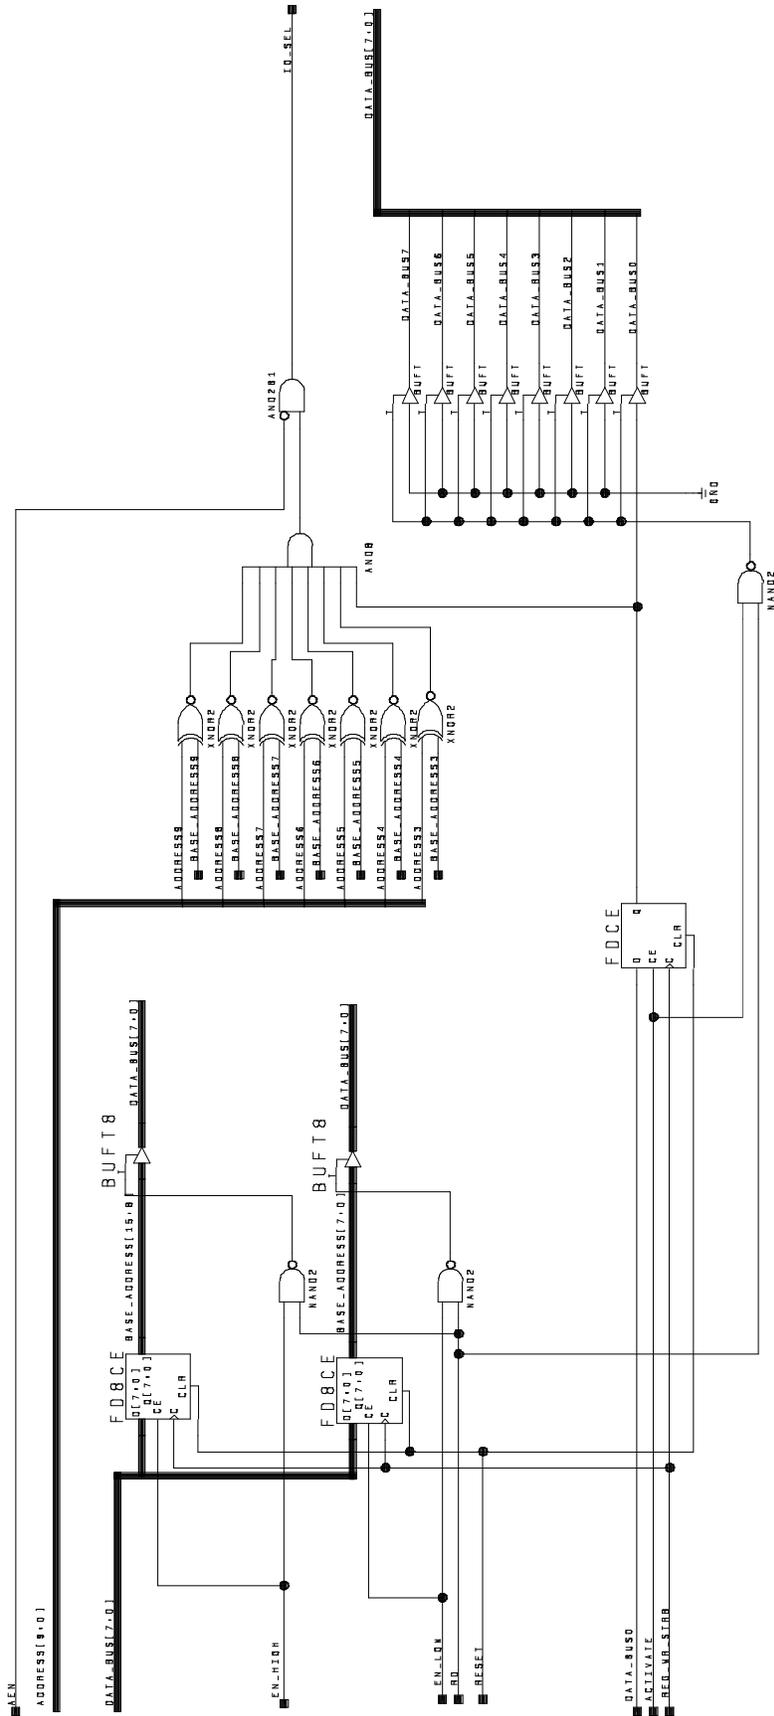

Figure 11—I/O Range Selector Schematic (IO_DEC.1)
- **I/O Space Configuration** — I/O space resource use is programmed by writing the I/O base address[15:0] to the I/O port base address registers. The logic for the base registers is shown in Figure 11. If a logical device indicated it uses 10-bit I/O space decoding, then bits [15:10] of the I/O address are not implemented on the card. If no I/O resource is assigned, the I/O base address registers must be set to zero.